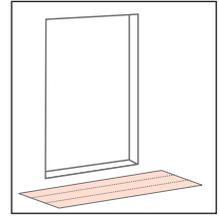

fig. 3
- Cut the flexible flashing tape at least 12" longer than the width of the rough opening sill. (fig. 3)